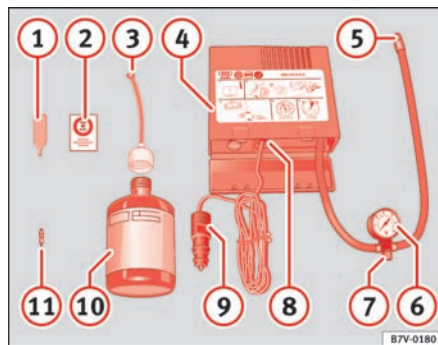

Fig. 155 Contents of anti-puncture kit
- Remove the anti/puncture sticker ⇒ fig. 155 ② and apply it to the instrument panel where it can be seen clearly.
- Use the enclosed extractor $\Rightarrow$ page 234, fig. 155 **1** to unscrew the valve insert. Place the valve insert on a clean surface.
- Vigorously shake the sealant bottle $\Rightarrow$ page 234, fig. 155 **10** for several seconds. ■